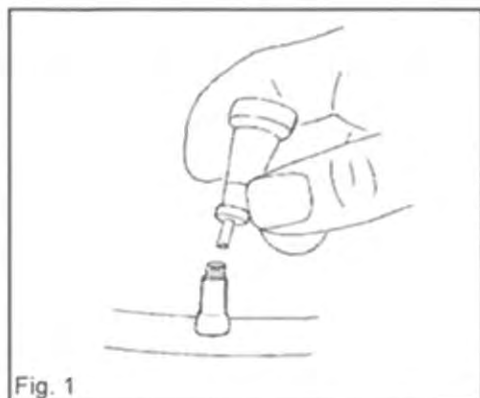

Fig. 1
2. Remove valve core from valve stem and let all air escape. (Fig. 1)